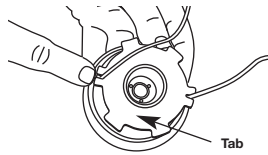

Fig. 34
- Insert the end of the line into the open hole in the inner reel and pull the line tight to make the loop as small as possible (Fig. 34).
- Insert the ends of the line into the two holding slots (Fig. 34).